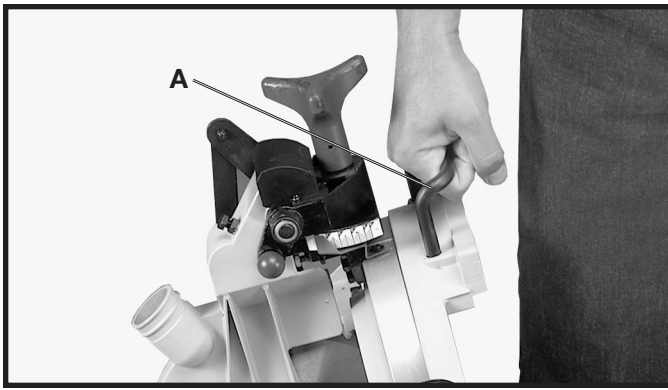

Fig. 21
When transporting the saw, the cuttinghead should always be locked in the down position. Lower the cutting arm (A) Fig. 18, and push in plunger (B) until other end of plunger (B) engages with hole in cutting arm. **IMPORTANT: CARRYING THE MACHINE BY THE SWITCH HANDLE WILL CAUSE MISALIGNMENT. ALWAYS LIFT THE MACHINE BY THE BASE OR BY THE CARRYING HANDLE (See Fig. 21).**
The support bar (A) Fig. 21 can also be used to carry the machine.